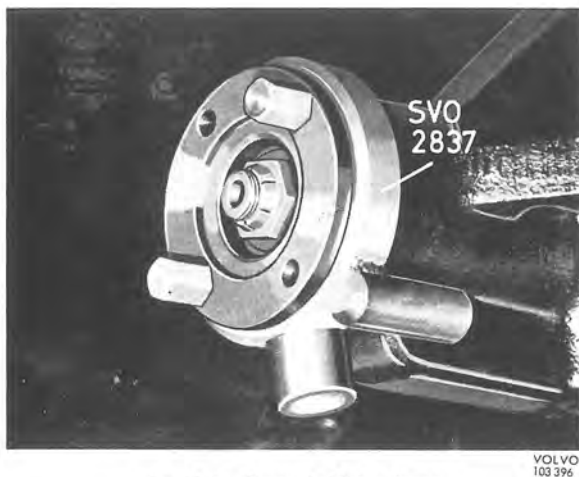
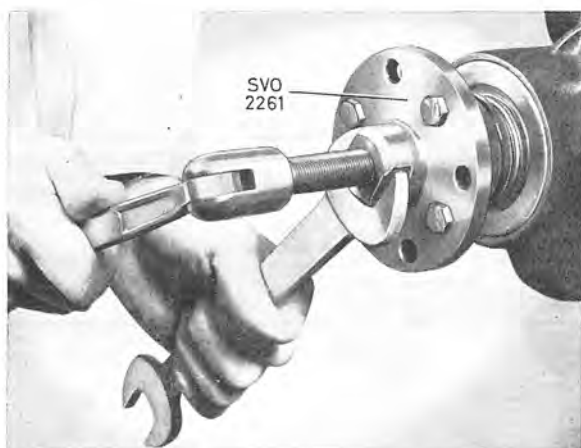

Fig. 4-141. Counterhold for flange
Fig. 4-142. Removing flange
2. Remove the nut for the flange. Use for this purpose tool 2837, see Fig. 4-141. Pull the flange off with puller 2261, see Fig. 4-142. Pull out the old oil seal with puller 4030.
7. Turn the final drive and let the oil run out into a container. Use tool 2837 as a counterhold for this purpose, see Fig. 4-141. Pull off the flange with puller 2261, see Fig. 4-142. Press out the pinion.